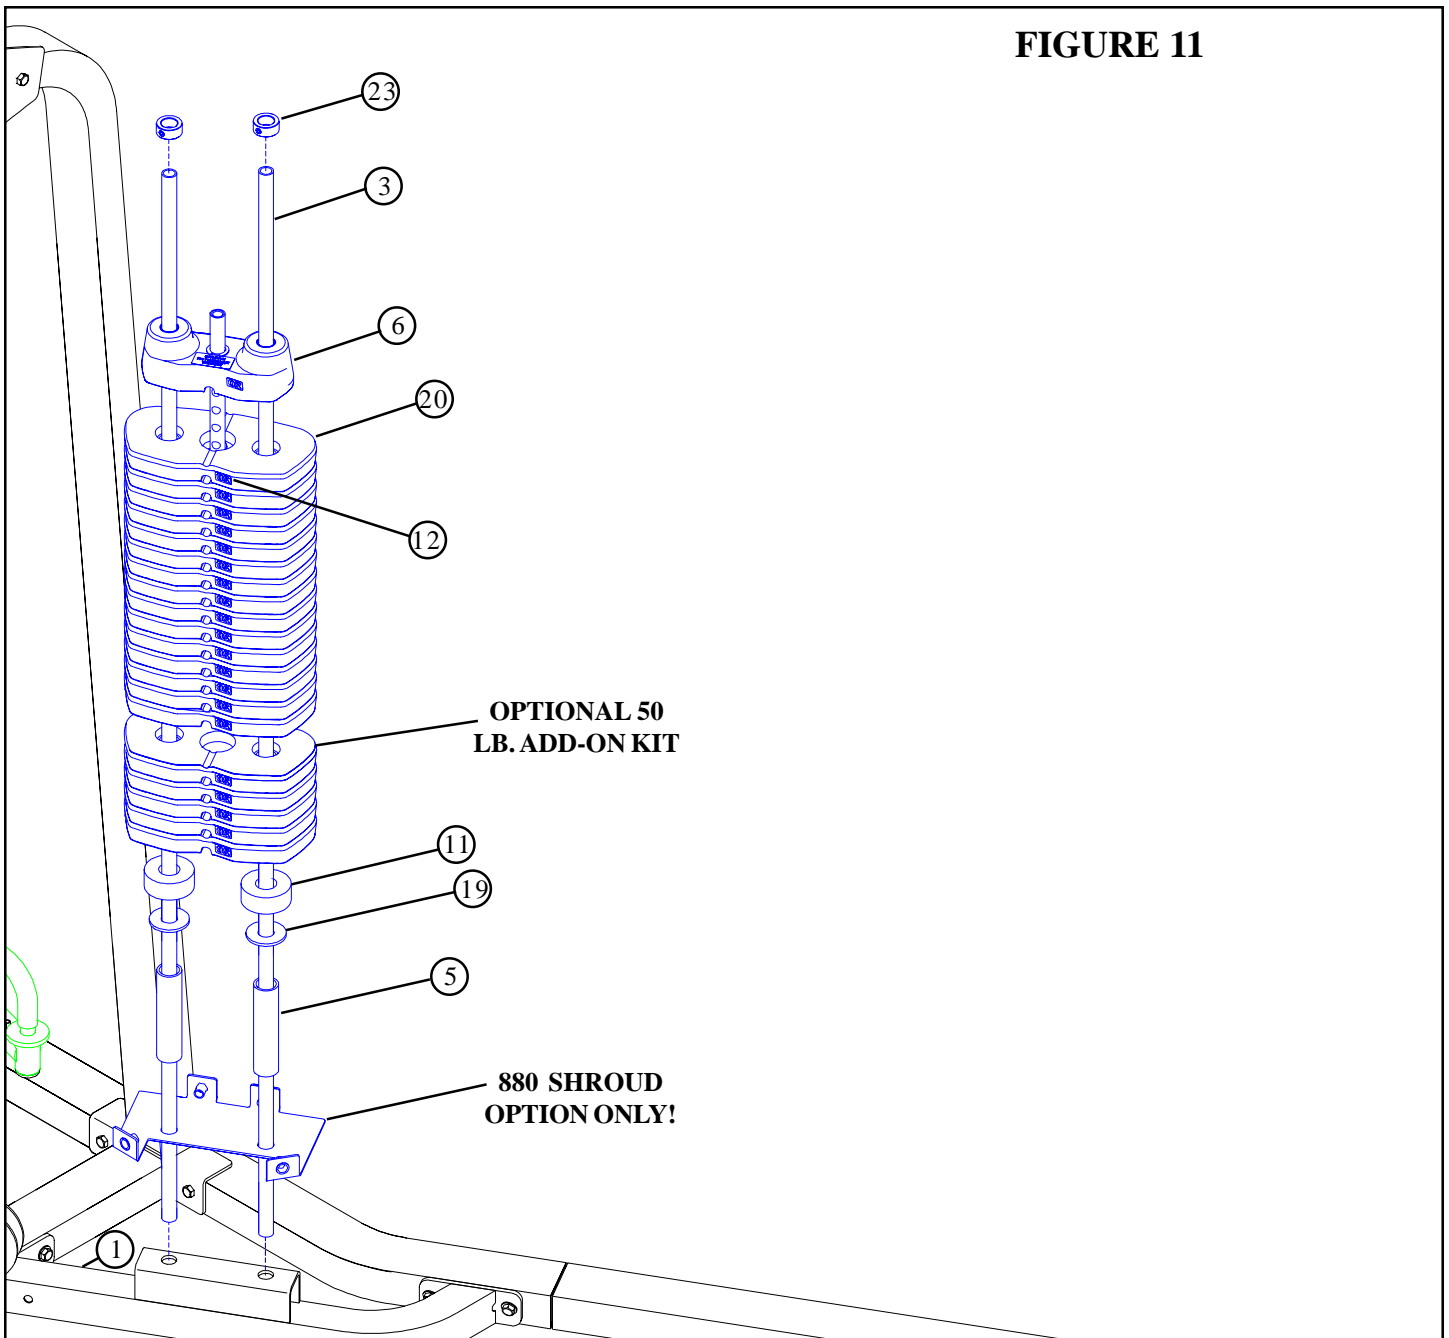

**FIGURE 10**
- Slide the WEIGHT PLATE SHAFT (4) thru the hole in the HEAD PLATE (6), and lock in place using one E-RING (22) as shown in FIGURE 10.